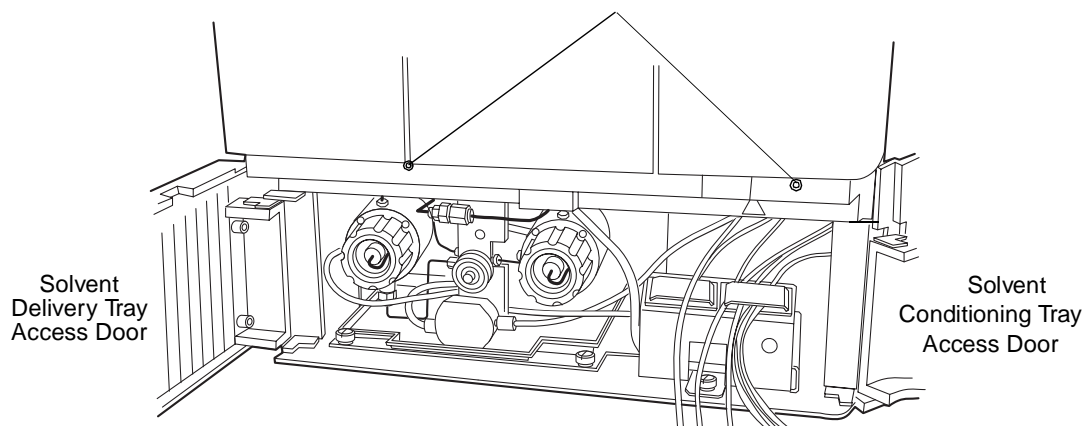

Figure 7-16 Accessing the Sample Compartment
3. Open the solvent delivery tray and solvent conditioning tray access doors (Figure 7-16).
4. Use the Allen wrench to loosen the two sample compartment front panel screws (Figure 7-16).